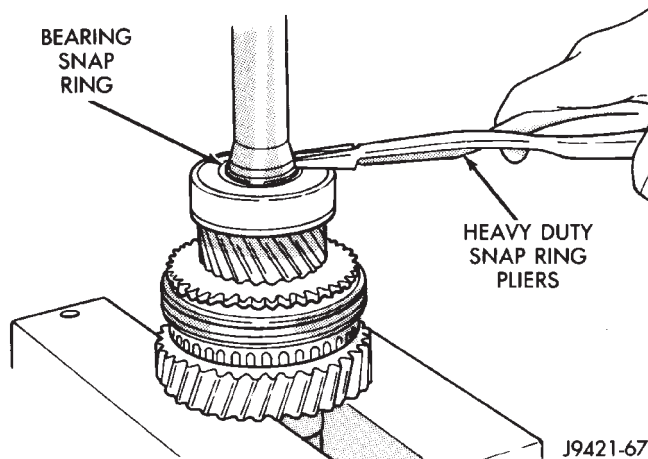

Fig. 79 Installing Output Shaft Bearing Snap Ring
(35) Install output shaft bearing snap ring (Fig. 79). Use heavy duty snap ring pliers and spread snap ring only enough to install it. Be sure snap ring is completely seated in shaft groove before proceeding.